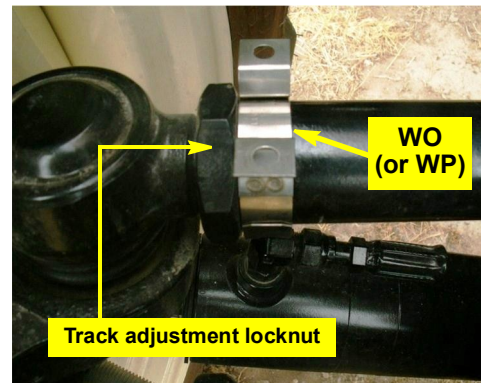

Figure 2c: Link rod clamp bracket installed
- c. Install link rod clamp bracket **WO** (or **WP**) on the right tie rod—flanges uppermost and horizontal—with the clamp's outer edge against the track adjustment locknut (Figure 2c).